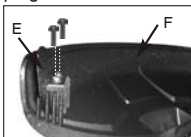

Fig. 19
1. Remove cutter knife (A) from cutting attachment guard (B) (Fig.19).